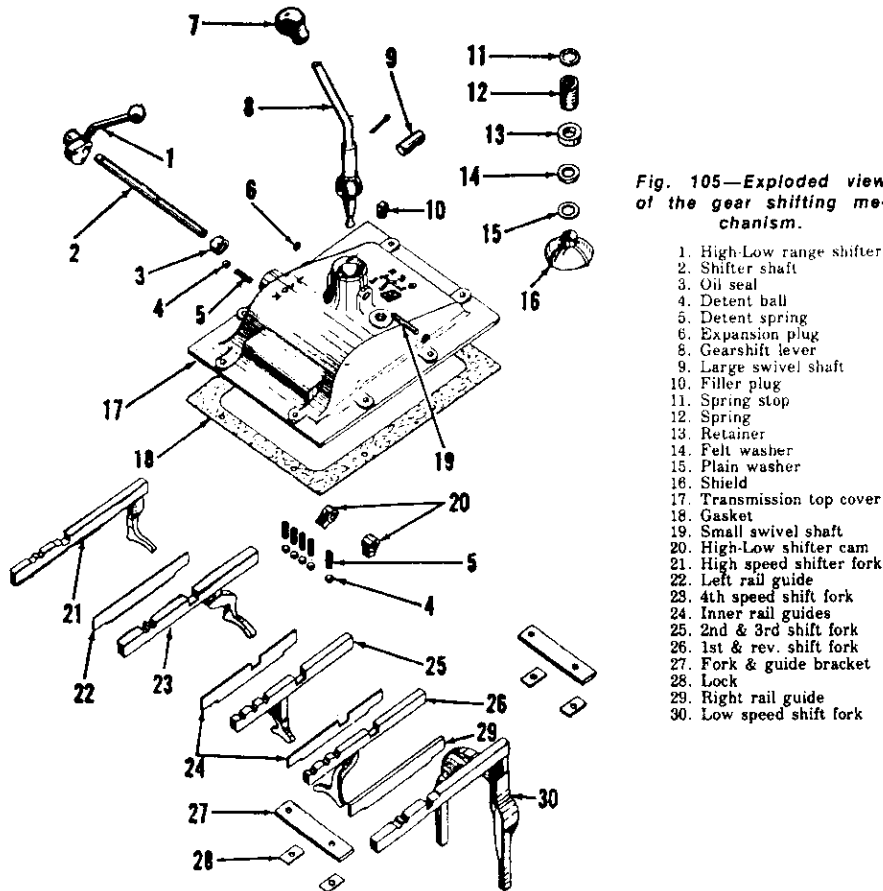

Fig. 105—Exploded view of the gear shifting mechanism.
160. With transmission top cover removed, secure same in a vise, straighten cap screw locks (28—Fig. 105), then unbolt and remove guide brackets (27). Shifter forks, rail guides and detents can now be removed. Further disassembly, if required, is obvious.
Fig. 104—View of the assembled gear shifting mechanism contained in the transmission top cover. Mechanism will differ on 424, 444, 2424, 2444, B-414, 354 and 384 tractors equipped with forward and reverse transmission. Refer to Fig. 105 for legend.